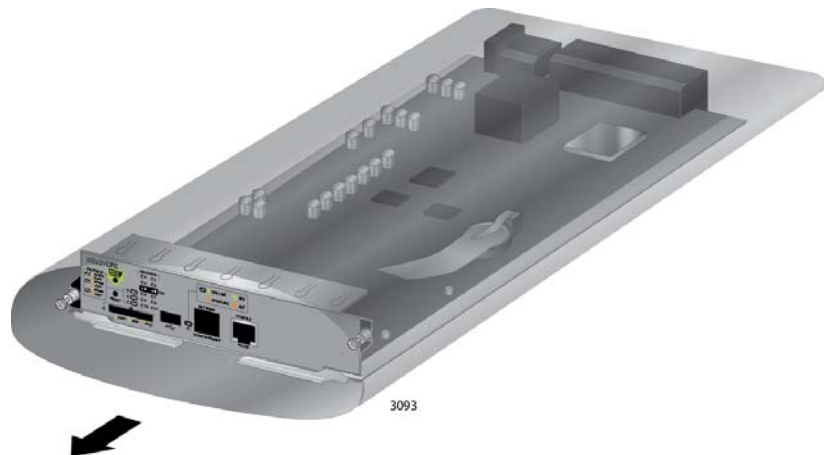

Figure 70. Removing the AT-SBx31CFC Controller Fabric Card from the Anti-static Bag
3. Carefully remove the controller card from the anti-static bag. Refer to Figure 70.